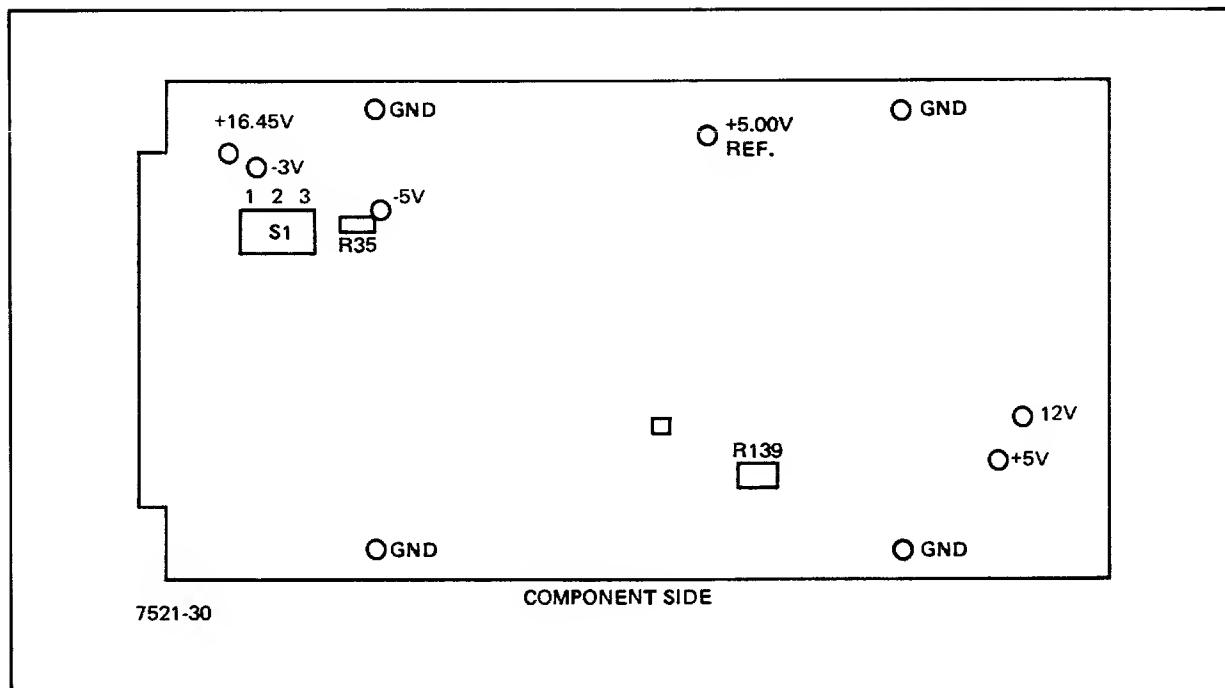

Figure B-7. Control Board Adjustment Locations
- d. Connect the digital voltmeter between the +16.45V test point on the control board (figure B-7) and a common ground point on the edge of the control board.
- h. Adjust potentiometer R35 on the control board (figure B-7) for the voltmeter indication determined in the previous step. This assumes that the battery is almost fully charged. If it is not, the voltmeter indication will be low and gradually increase as the battery charges. A stable indication must exist before R35 can be satisfactorily adjusted.
- d. Connect the digital voltmeter between the +5.00 volt internal reference test point on the control board (figure B-7) and a common ground point on the control board.